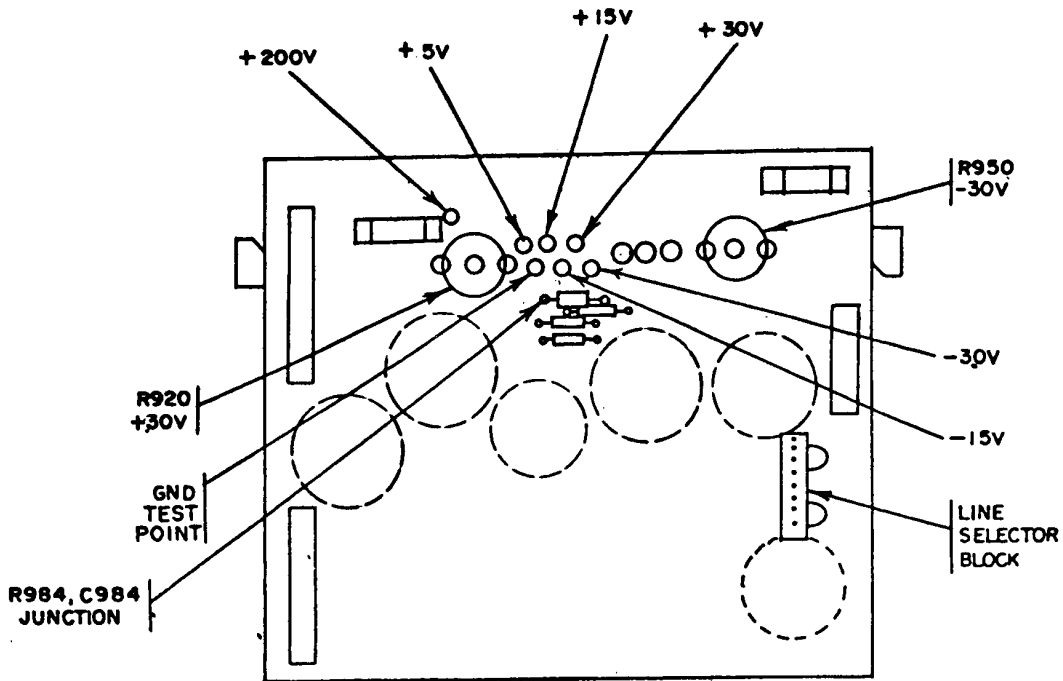

Figure 2. Power supply circuit board (bottom).
- b.** Remove top and bottom protective covers from TI. Insure that line selector block (brown) (fig. 2) for 120 V ac (volts alternating current) operation is installed.
- f.** Position TI controls as listed in (1) through (5) below:
- (1) INTENSITY control ccw (counterclockwise) (off).
(1) Press TI POWER switch to off and connect probe(B3)between the junction of R984 and C984, and GND TEST POINT (fig. 2),using adapter (B1).
(2) Connect digital voltmeter (A3) between TI. CALIBRATOR current loop and GND TEST POINT, using adapters and leads supplied With digital voltmeter.
(3) Pull TI POWER switch to on.
(4) Digital voltmeter should indicate between +396 and +404 mV (millivolts) dc.
(5) Vary autotransformer (A1) between 105 and 125 V ac and observe that digital voltmeter indication remains between +396 and +404 mV dc.
(6) Press TI POWER switch to off and disconnect probe and adapter connected in (1) above.
(7) Pull TI POWER switch to on.
(8) Connect CALIBRATOR loop to vertical amplifier channel 1 INPUT, using adapter and probe (B4 and B3).
(9) Adjust INTENSITY control, vertical amplifier VOLTS/DIV switch, and time base TIME/DIV switch as necessary to obtain a square wave display.